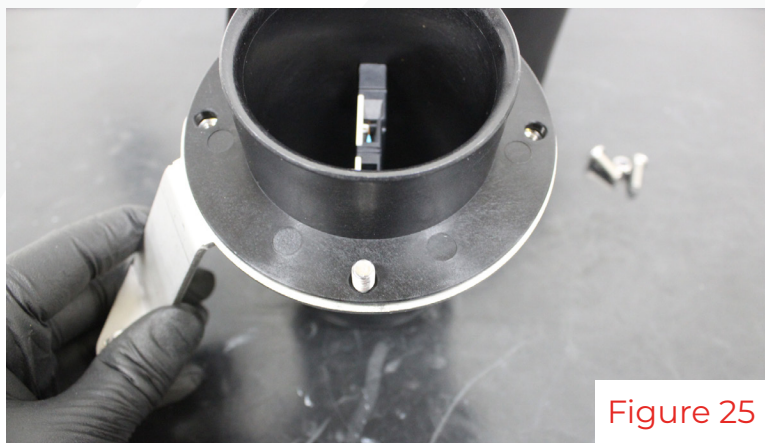

Figure 25
13. Repeat the previous step to assemble the passenger side(fig 25 & 26).